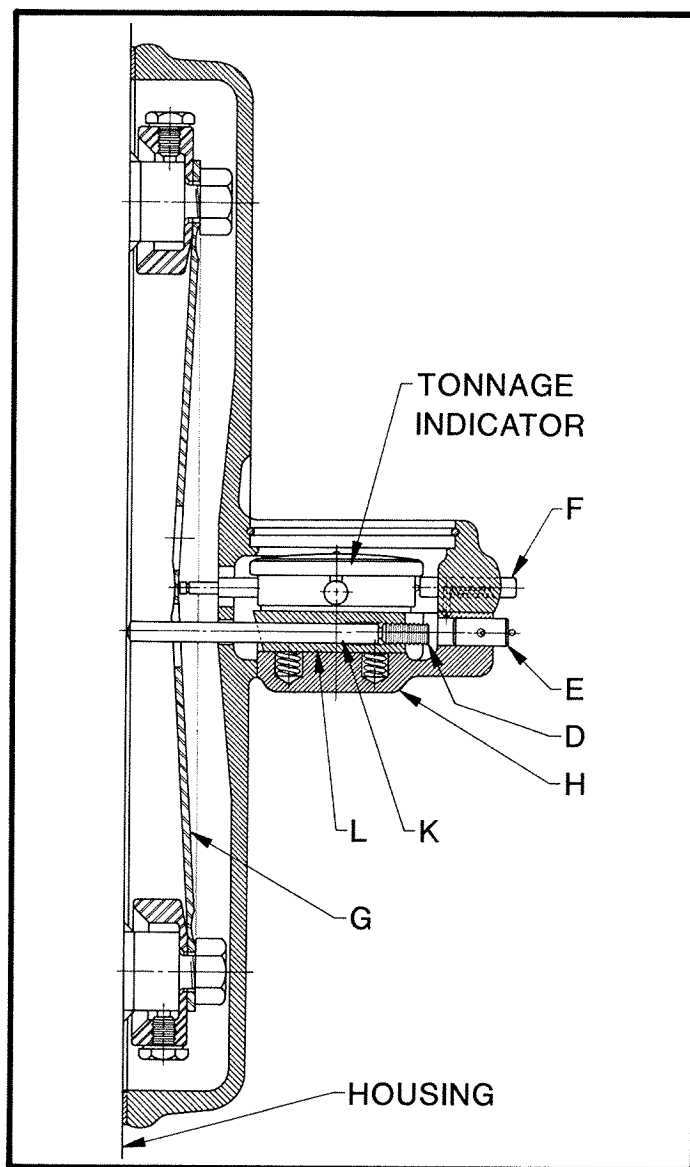

FIGURE 72
To reset the Tonnage Indicator (See Figure 72):
2. Remove the three socket head screws in the back cover "H" (Figure 72) and remove the cover.